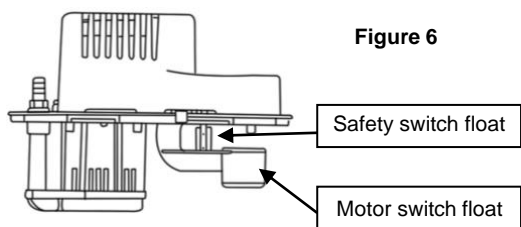

Figure 6
2. Be sure the floats move freely. Clean as necessary (Figure 6).
3. Test motor switch by raising motor switch float with finger (Figure 6). Motor should turn on just before float contacts cover.